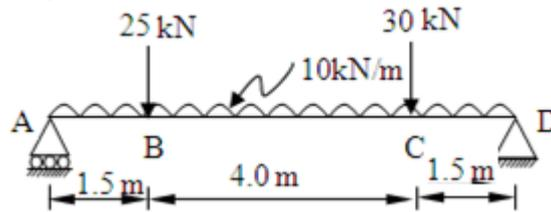

Fig.4
- (c) Find slope at point A and D & deflection at point B for the beam shown in Fig.4 by Macaulay's method. $E=200$ GPa and $I=14400 \times 10^4 \text{ mm}^4$. **07**